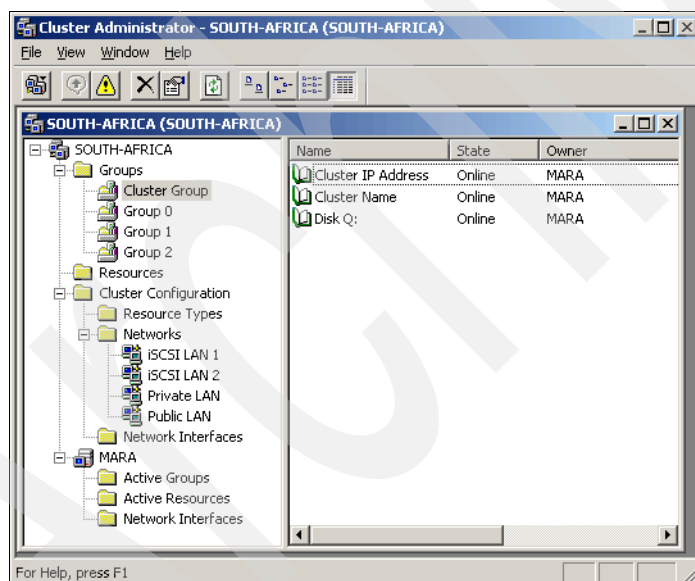

Figure 23-49 Single node cluster on host MARA
12. Now the Cluster Administrator is visible, showing a connection to the newly created cluster. The cluster contains our node Mara, as shown in Figure 23-49.